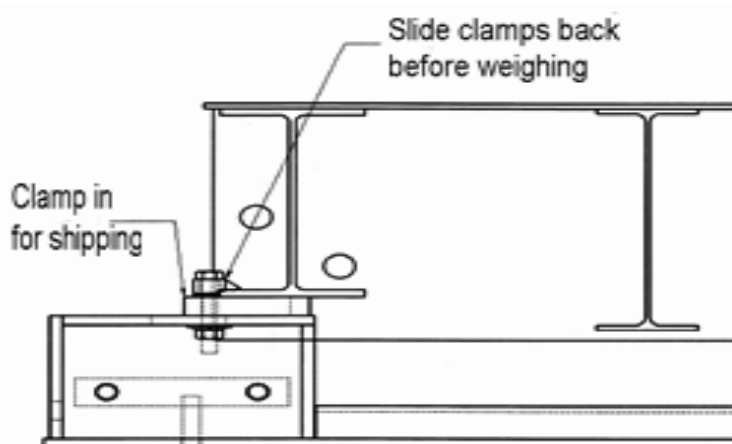

Figure 8
2.3.1. 3 MODULE PV SCALE - Installation for 60' & 70' scales with three (3) modules, Continued
9. After the two end modules are set, loosen the clamp brackets that secured the pedestal to the weighbridge. Slide the clamps and plates out of the weight into the storage position but leave attached to the pedestal frame. See Figures 8 & 9